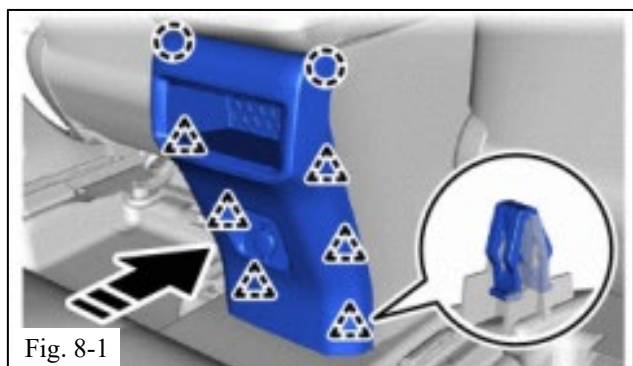

Fig. 8-1
- (1) Attach the clip and claw to install the rear console end panel sub-assembly in the direction indicated by the arrow shown in the illustration (Fig. 8-1).
**NOTE:** Ensure wire harness bundle does not interfere with clips (Fig. 8-1) nor weld stud (Fig. 7-3) when reassembling the rear panel to the console box.